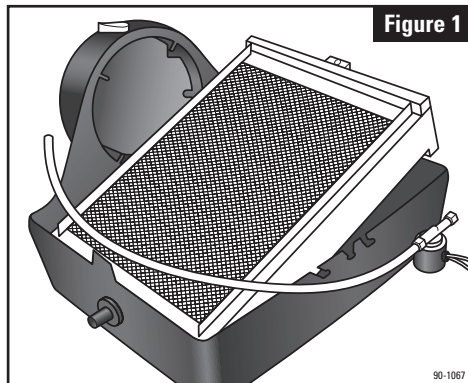

Figure 1
1. Remove front cover by pressing center tabs on top and bottom of the cover (1) and base (2). Pull feed tube (3) out of the water distribution tray (4). Tip the evaporative assembly forward and lift it out of the humidifier. (See **Figure 1**)
2. The humidifier comes assembled for left side discharge. If converting to right side discharge, the base can be rotated so round collar is facing to the right. Swap the location of the hole plug (10) and drain spud (9) if using a right side discharge. To remove the cap, push and twist from inside the housing while lifting the cap up slightly on the outside. To remove the drain spud, twist and push from the outside of the base.